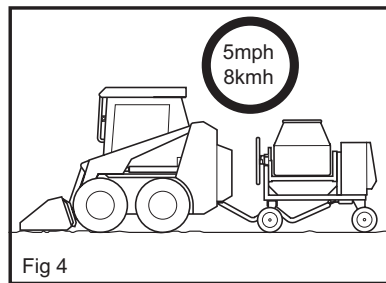

Fig 4
- These mixers are designed for on site towing only, maximum speed 5mph/8 kmh (Fig 4), for short periods of time.